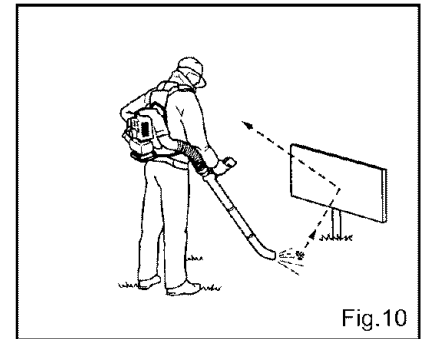

Fig.10
- Take care with the air pressure. Flying stones, dust and branches can injure persons and animals, and break glass.(Fig.10)